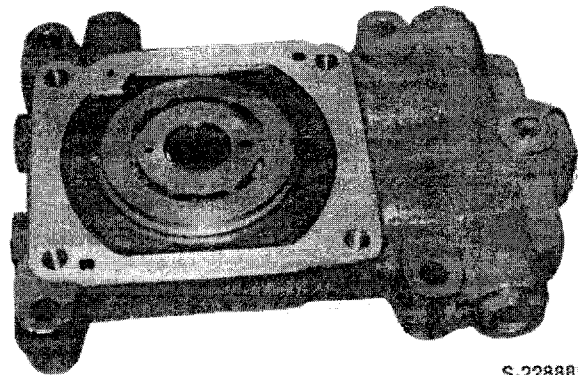

Figure 70
- Install the port valve with tapered opening onto the port block, Figure 70.